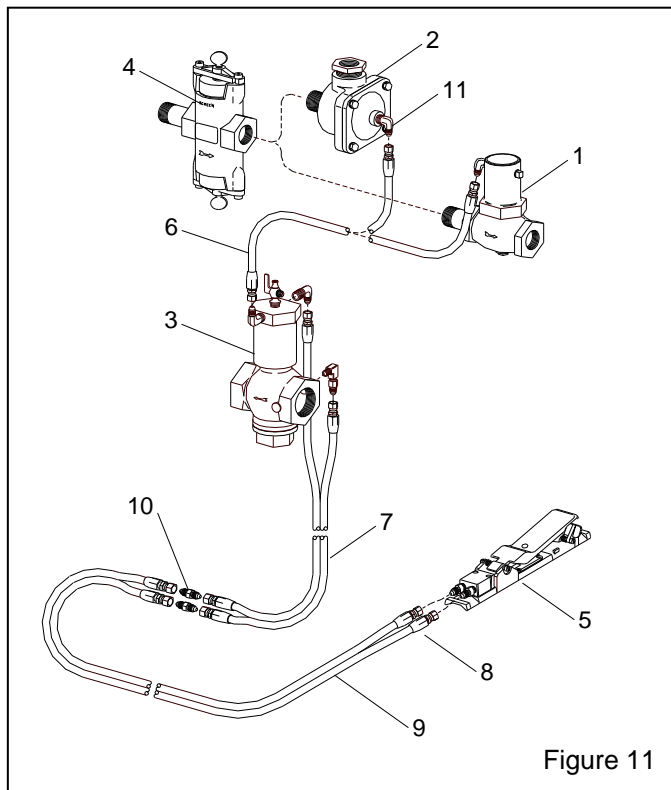

Figure 11
7.4 Remote System, Figure 11
NOTE: All part not shown are the same as those shown in Section 7.3, and Figure 11. Refer to the RLX manual for replacement parts for the ACS Control. Refer to the Metering valve manual for metering valve replacement parts.